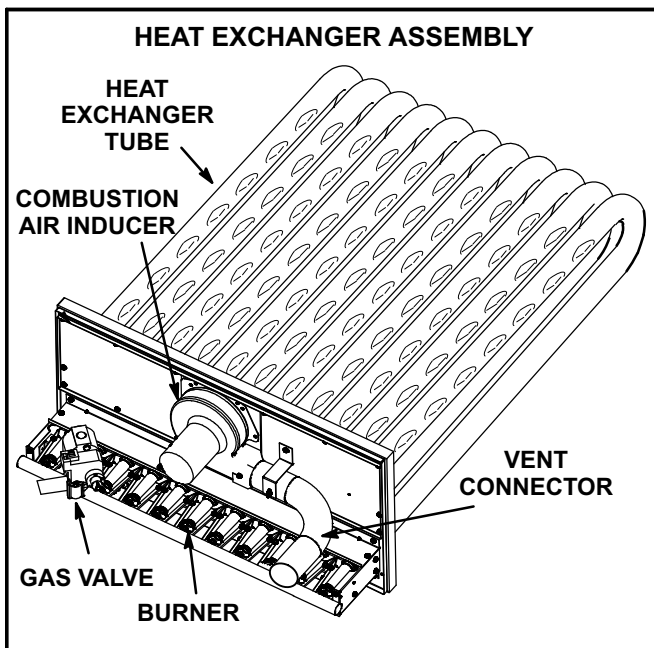

FIGURE 23
3. Remove and retain screws securing combustion air inducer to flue box. Remove and retain two screws from bracket supporting vent connector. See figure 23.